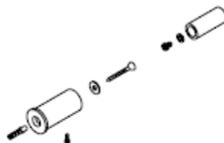

Fig. 1
- 4 towel radiator suspension brackets as shown in (Fig 1).